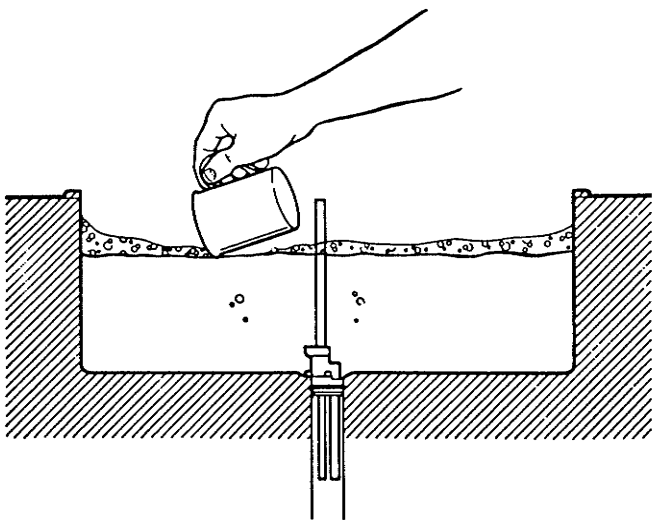

Figure 30. Skimming Hopper
2. Using a sanitized one pint aluminum overrun container, skim the mix in the hopper to remove any foam buildup (Fig. 30).